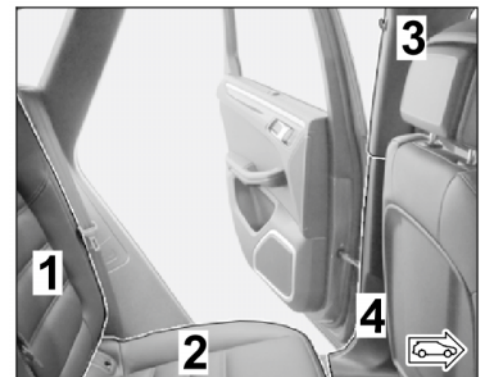

Figure 16
1.6.2 Detach/remove rear backrest (⇒ Figure 16 -1-) ⇒ Workshop Manual '724719 Removing and installing rear backrest'
1.6.3 Remove rear seat (⇒ Figure 16 -2-). ⇒ Workshop Manual '724819 Removing and installing rear seat'